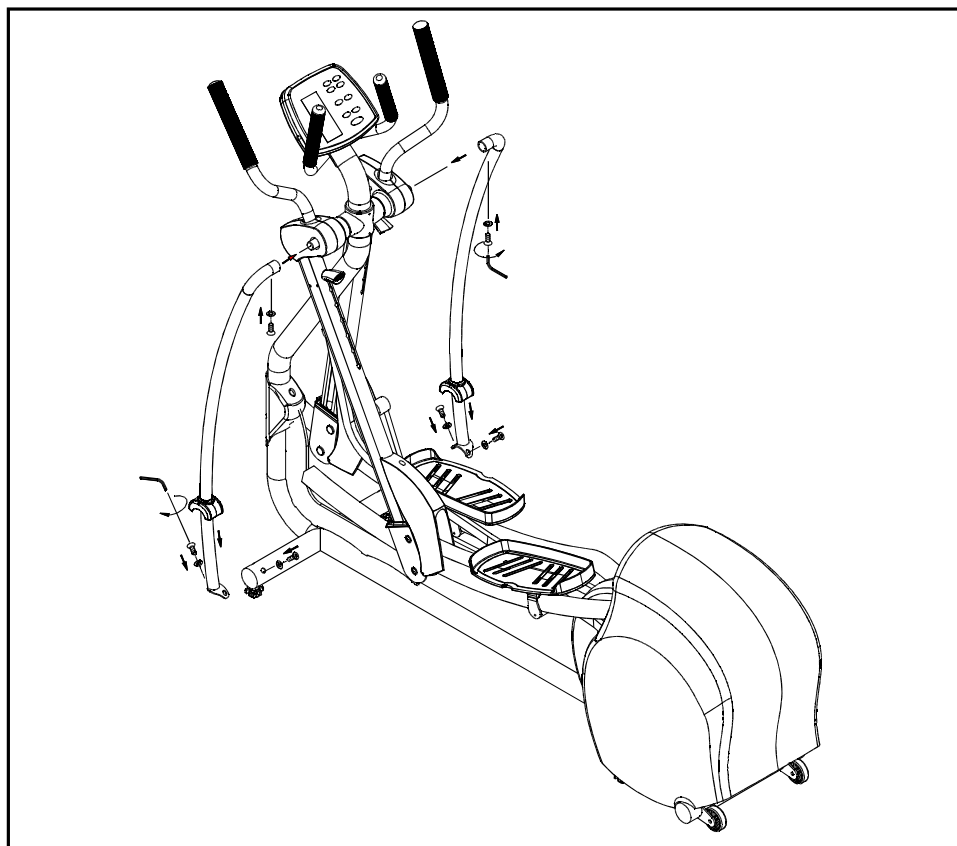

Fig.8
9. Attach the support tubes with the 1/4" x L 3/4" bolts to the upper tube mount, and secure them tightly. Use T-handle wrench to secure 5/16" x L 3/4" bolts on the lower tube mount. Then cover with water-resistant cap. (See Fig.8)